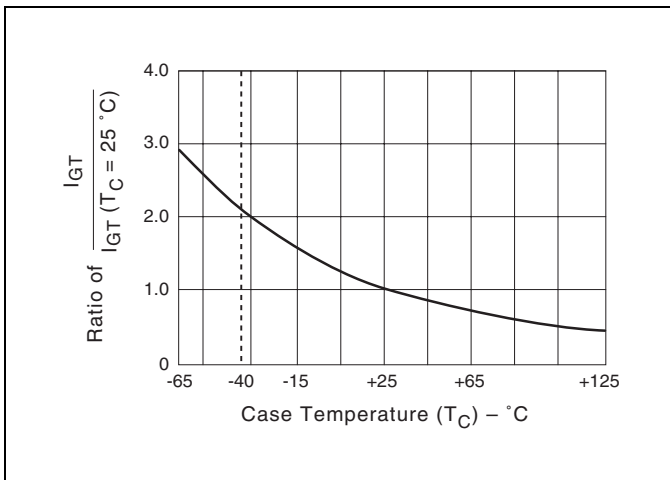

Figure E4.8 Normalized DC Gate Trigger Current for all Quadrants versus Case Temperature
- (7) See Figure E4.8 for I_{GT} versus T_C.